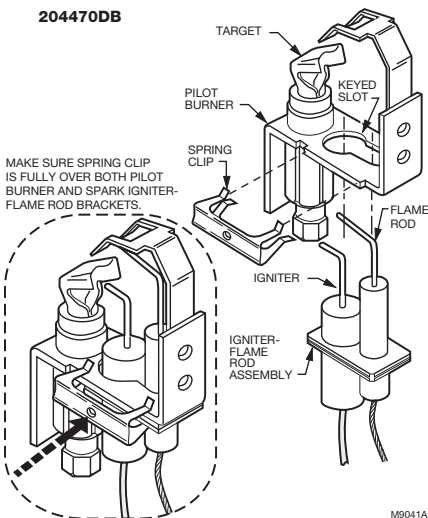

Fig. 1. Replace Q3300 Spark Igniter-Flame Rod Assembly in keyed slot of pilot burner bracket.
The assembly can be replaced without removing the pilot burner, see Fig. 1.
2. Hold the bottom of the assembly with one hand. With the other hand, remove spring clip by pulling it away from the pilot burner. See Fig. 1.
1. Insert assembly in the pilot burner until it is flush with pilot burner bracket. Secure with new spring clip provided. See Fig. 1.